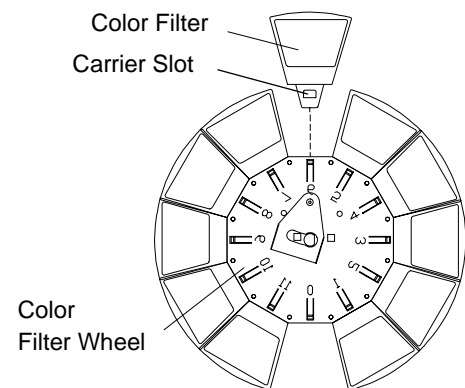

Figure A-4: Filter Installation
Step 5. Noting proper orientation of carrier slot, insert new color filter into position and push fully into place. See **Figure A-4**.